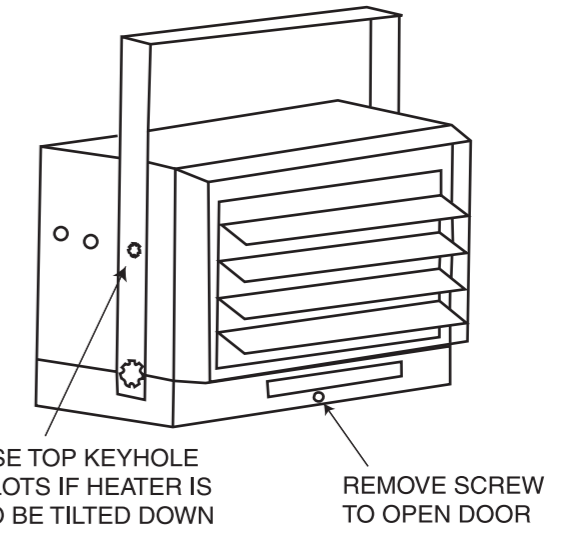

Figure 5
- If the heater is to be tilted, It must be positioned in the keyholes slots (see figure 5)
- Tilting the unit** -Loosen the bracket screws (see figure 5).